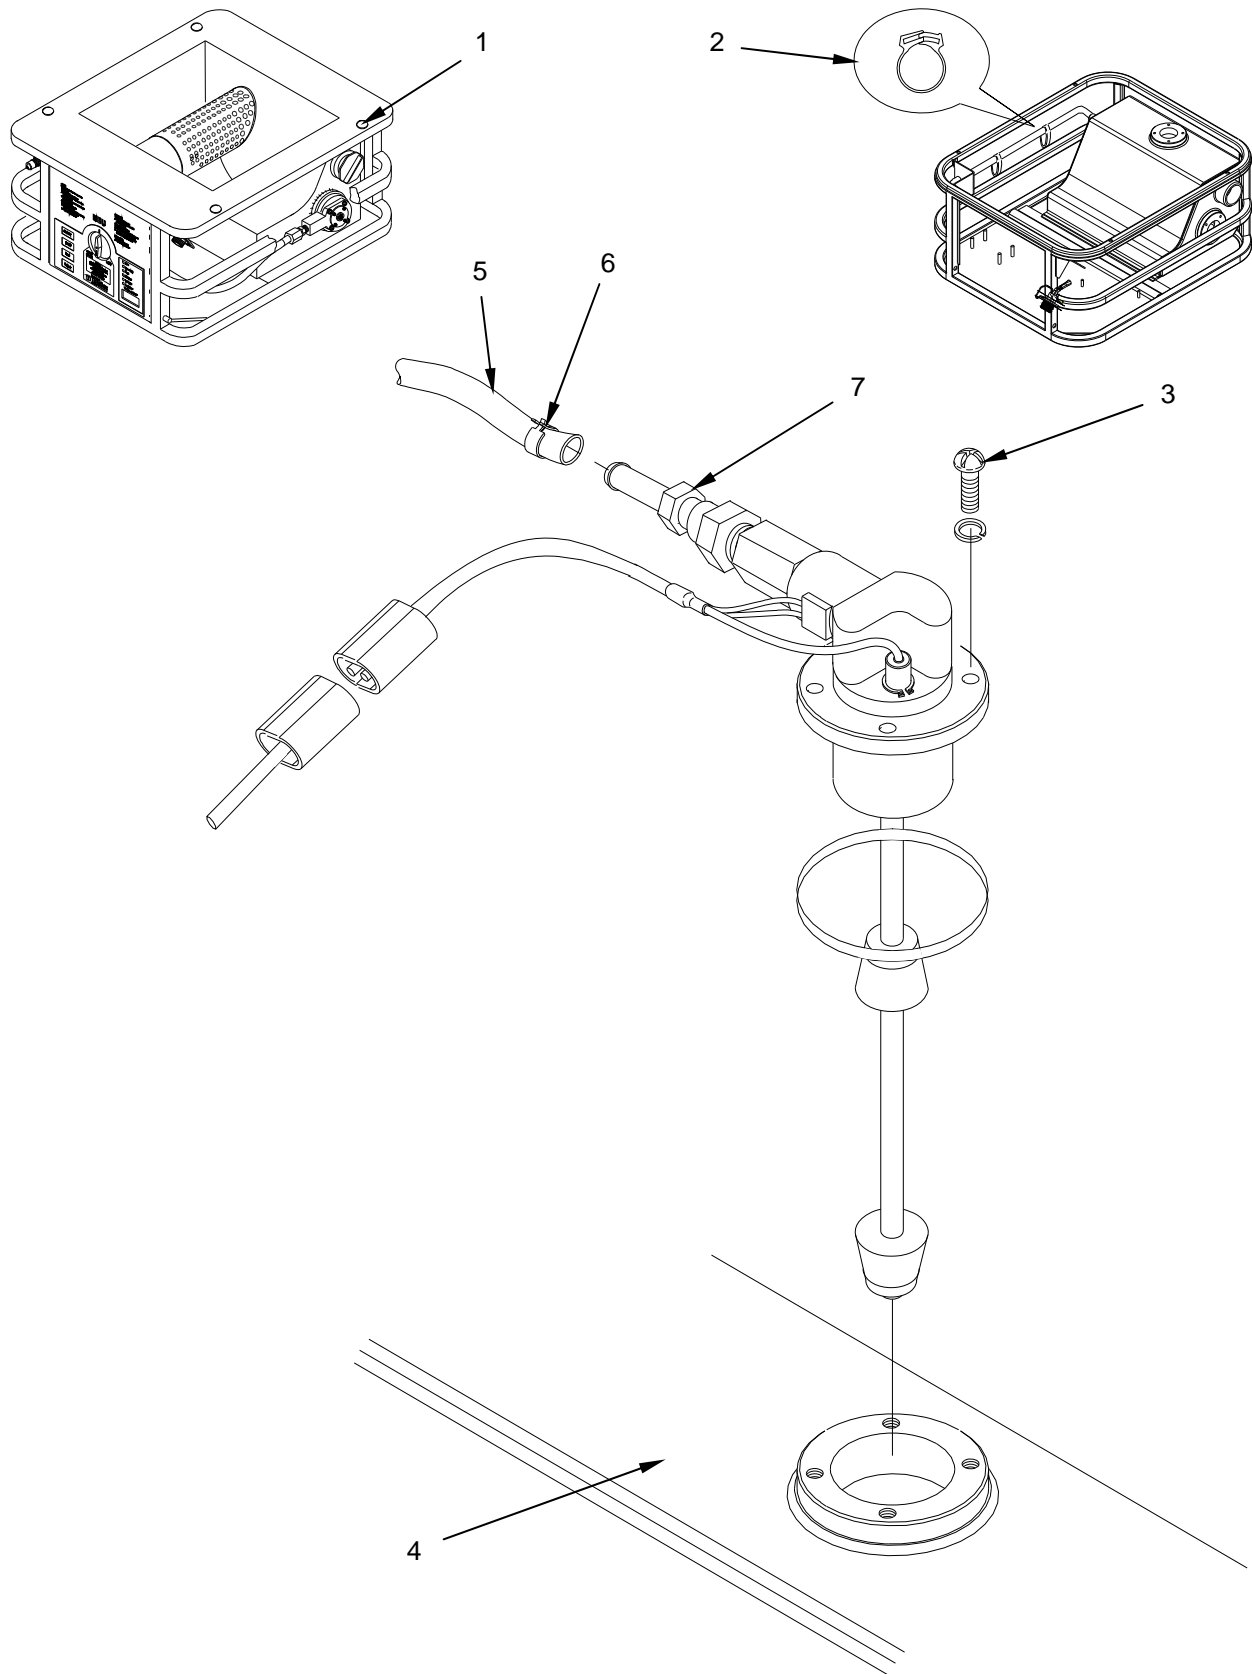

Figure 4. Replace the Vent Valve Assembly.
1. Remove the four carriage bolts (Figure 4, Item 1), washers, and self-locking nylon nuts holding the reflective heat shield assembly to the frame and set the hardware aside for reassembly.
2. Remove the retainer clamps (Figure 4, Item 2) from the fuel line assembly. Retain the clamps for reassembly.
3. Remove the four screws (Figure 4, Item 3) securing the vent assembly to the fuel tank (Figure 4, Item 4). Retain the fasteners for reassembly.
4. Remove the air hose (Figure 4, Item 5) by squeezing the tabs on hose clamp (Figure 4, Item 6) with a pair of pliers and slide the clamp off the vent valve fitting (Figure 4, Item 7) and onto the air hose (Figure 4, Item 5). It may be necessary to cut or replace the hose to remove it.